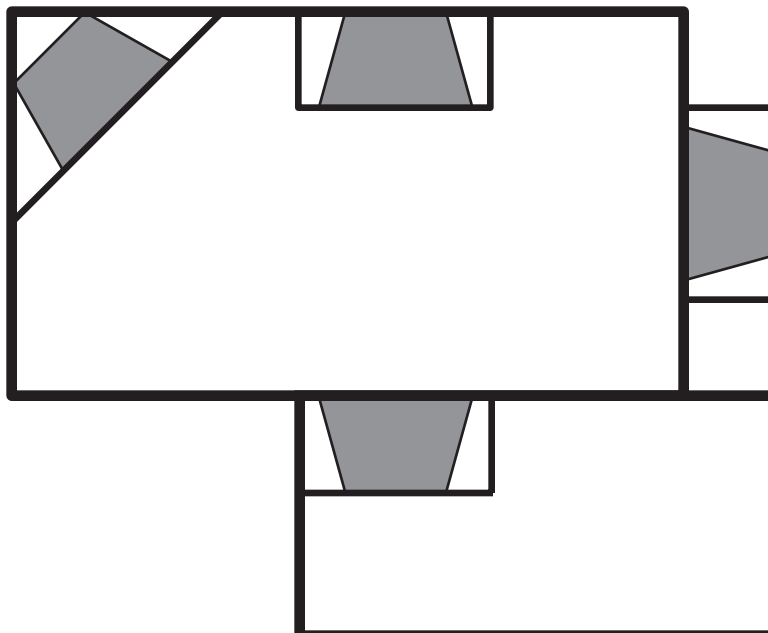

Figure 6 - Suggested Locations
- Minimize modifications to existing construction. *See Figure 6* below for location suggestions.